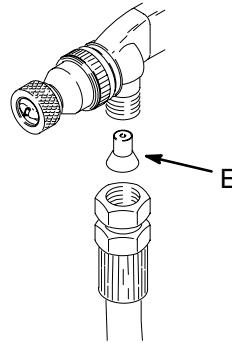

Fig. 2
- **Set the gun's trigger bail (20)** to hold the trigger open and reduce operator fatigue on large surface areas.
- **If fluid from the gun is pulsing and you are spraying thin material**, install an accessory Flow Restrictor, P/N 190109, to restrict the flow of fluid to the gun. Install as shown in Fig. 2.